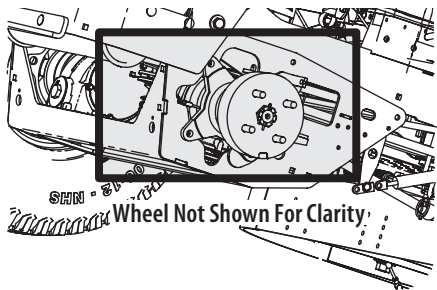
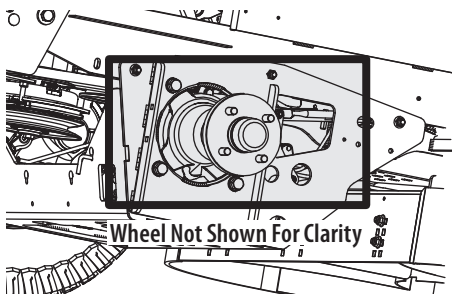

Fig. 30
Fig. 31
- Clean around and near the transmission, axle and the fan area (Fig. 30 for Parker transmissions and Fig. 31 for Hydro-Gear transmissions).